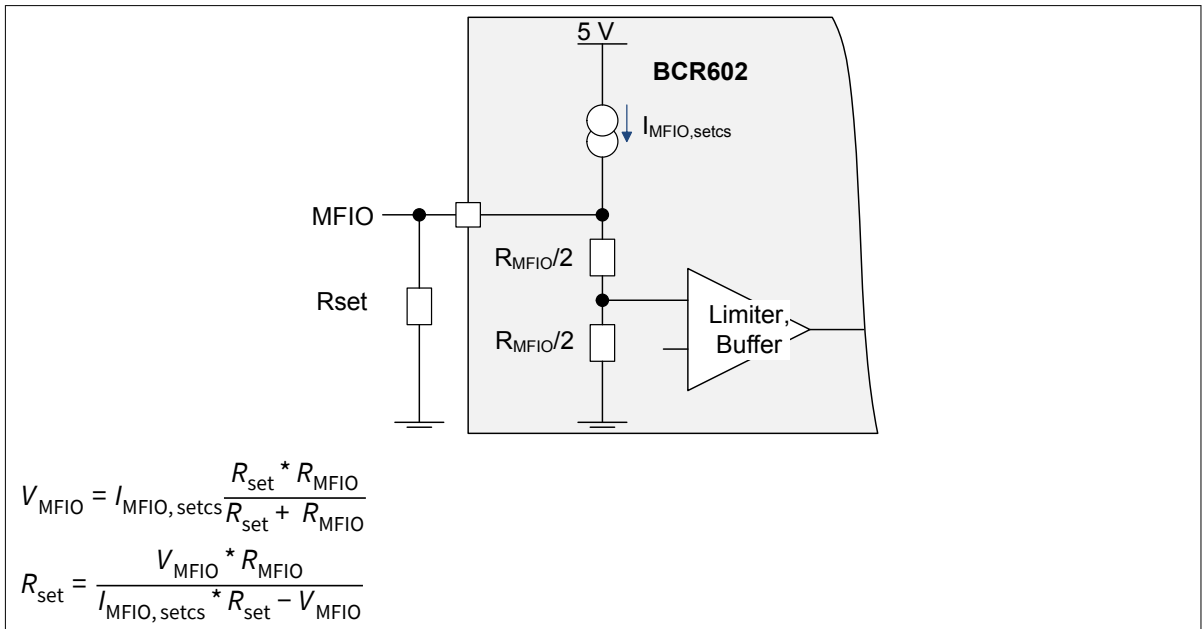

Figure 5 R_{set} dimensioning for resistor dimming
3. For resistive dimming using R_{set} and internal MFIO current, the internal pull-down has to be taken into account. For proper dimensioning refer to Figure 5.